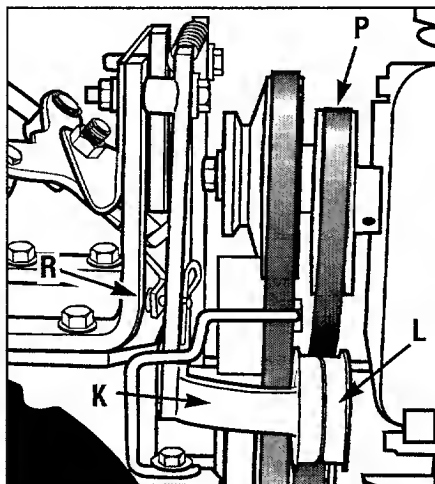
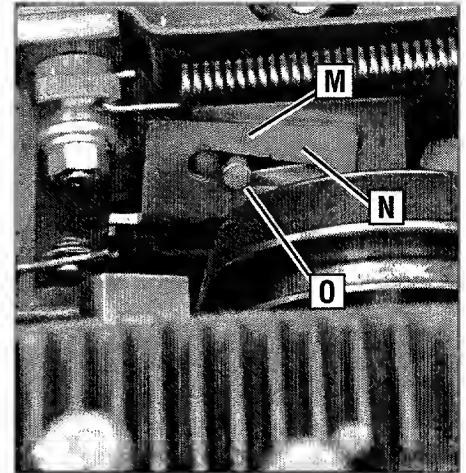

Figure 5-13 Disconnect Forward Clutch Rod and move forward drive belt out of groove in engine forward drive pulley.
Figure 5-14: While pushing reverse idler arm inward, stand at engine end and check position of guide mark (M) and guide pin (O).
2. Stand at the front of the tiller and use your left hand to push the reverse idler arm (K, Figure 5-13) inward as far as possible (the reverse idler pulley [L] is attached to the reverse idler arm). Hold the idler arm in this position and look at the position of the belt tension guide mark (M, Figure 5-14) that is stamped into the face of the reverse adjustable link (N, Figure 5-14).
- The belt tension is correct if the guide mark (M, Figure 5-14) is anywhere to the left of the guide pin (O), as viewed from the front of the unit (not the operator's position). If the belt tension is correct, reinstall the belt cover and secure it with the two nuts.
3. The reverse idler pulley (L, Figure 5-13) regulates the tension that is applied to the reverse drive belt (P). The following adjustment will allow the reverse idler pulley to apply more tension to a loose belt.
5. Slip the reverse belt (P, Figure 5-13) off the engine driven reverse (upper) pulley.
6. On the **right** side of the unit (as viewed from operator's position) remove the hairpin cotter from the clevis pin (R, Figure 5-13) that connects the reverse idler arm (K) to the reverse adjustable link. Push inward on the reverse idler arm (K) and remove the clevis pin (R).
8. Reinstall the reverse belt (P, Figure 5-13) on the reverse (upper) pulley, making sure the belt is located to the inside of the reverse idler pulley (L, Figure 5-13).